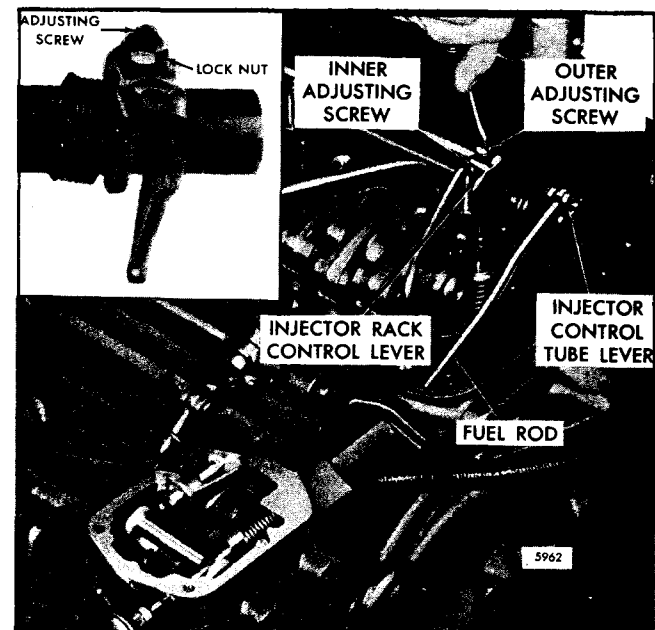

Fig. 2 - Positioning No. 1 Injector Rack Control Lever
1. Remove the governor cover and the rocker cover (Fig. 2). Loosen all of the inner and outer adjusting screws. Make sure all of the control levers are free on the injector control tube.
1. Turn the outer adjusting screw (Fig. 2) in until a
4. Manually hold the No. 1 injector rack control lever in the full-fuel position and turn the inner adjusting screw (Fig. 2) into the No. 2 injector rack control lever until the injector rack has moved into the full-fuel position and the inner adjusting screw is bottomed on the injector control tube. Turn the outer adjusting screw down until it bottoms lightly on the injector control tube. Then alternately tighten both the inner and outer adjusting screws.